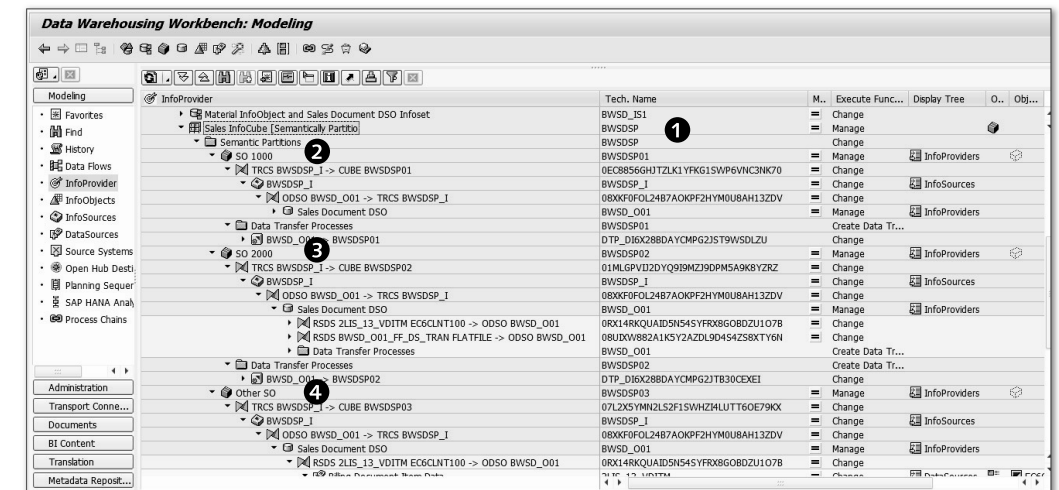

Figure 6.57 Semantically Partitioned InfoCube BWSDSP in the Database Warehousing Workbench Screen
This step completes the configuration of the SPO. You can view the SPO in the DATABASE WAREHOUSING WORKBENCH screen by using Transaction RSA1, as shown in ❶ of Figure 6.57.
As shown in Figure 6.57, three InfoCubes (BWSDSP01, BWSDSP02, and BWSDSP03) are shown under SPI BWSDSP (❷, ❸, and ❹). InfoSource BWSDSP_I and the transformation between the InfoSource and the three partitions are also shown. Just like other InfoProviders, SPOs can be used by BEx tools for querying and reporting.